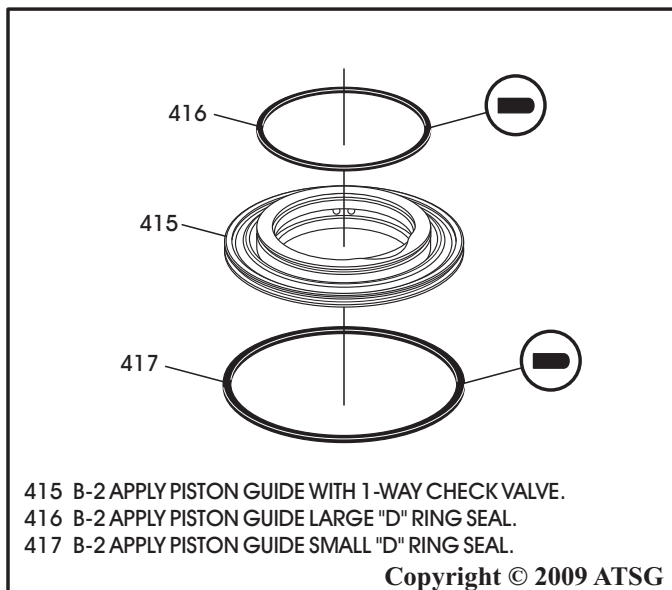

Figure 154
7. Install a new "D" ring seal on the small portion of the B-2 apply piston guide with the 1-way check valve, as shown in Figure 154.
8. Install a new "D" ring seal on the large portion of the B-2 apply piston guide with the 1-way check valve, as shown in Figure 154.